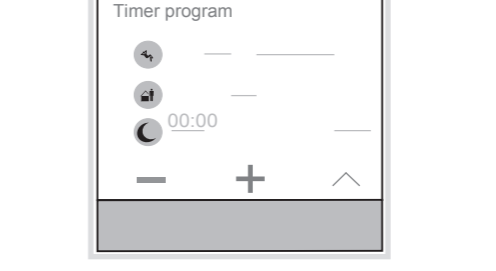

Figure 13: Setting the switching time
- The display changes for setting the switching time (figure 13).
- Set the switch-on/switch-off time with ➔ / ➕ (figure 13).